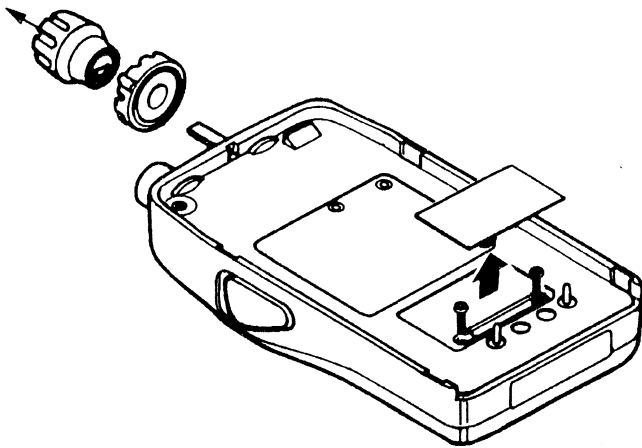

Figure 1.
- Lay the transceiver on a flat surface covered with a soft cloth to protect the front case from marring, then remove the two rear-panel case screws (Fig. 1).